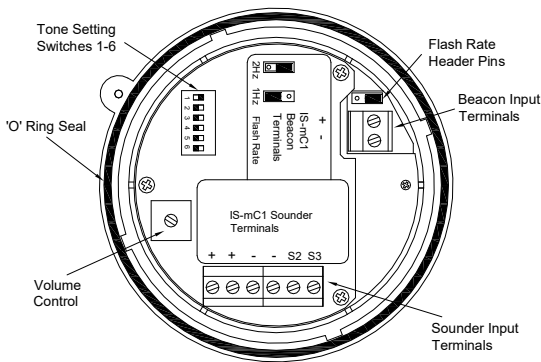

Fig 2 Location of field terminals and controls.
Power is supplied to the sounder section via the sounder input terminals + and - on the sounder PCB (see Fig 2) and the terminals have the following input safety parameters:
Power is supplied to the beacon section via the beacon input terminals + and - on the beacon PCB (see Fig 2) and the terminals have the following input safety parameters:
- Fit the required number of 20mm cable glands or conduit entries into the base and connect the field wiring to the appropriate sounder terminals as shown in section 6 and fig 2 of this manual. The power supply terminals + and - are duplicated so that sounders may be connected in parallel, or an end of line monitoring resistor may be fitted.
- Select the required sounder output tone by positioning the six switches as shown in Table 1 and Fig 2.
- Check that the 'O' ring seal is correctly located on the sounder/beacon section (see Fig. 2) and insert the sounder/beacon section into the base. Push it fully home and turn it clockwise to align the mouldings before tightening the security screw.
Tone Selection – To select the required first stage tone set the tone switches 1 to 6 (see Fig 2) to the tone setting shown in the table below. The table also shows which 2nd and 3rd stage tones are available for use with the selected first stage tone if more than one tone output stage is required.